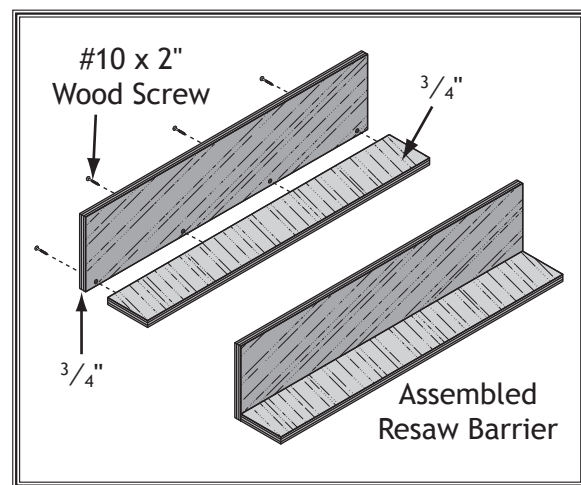

Figure 59. Shop-made resaw barrier.
3. Glue the end of the 3" board, then clamp the boards at a 90° angle with the larger board in the vertical position, as shown in **Figure 59**, and fasten them together with the wood screws.